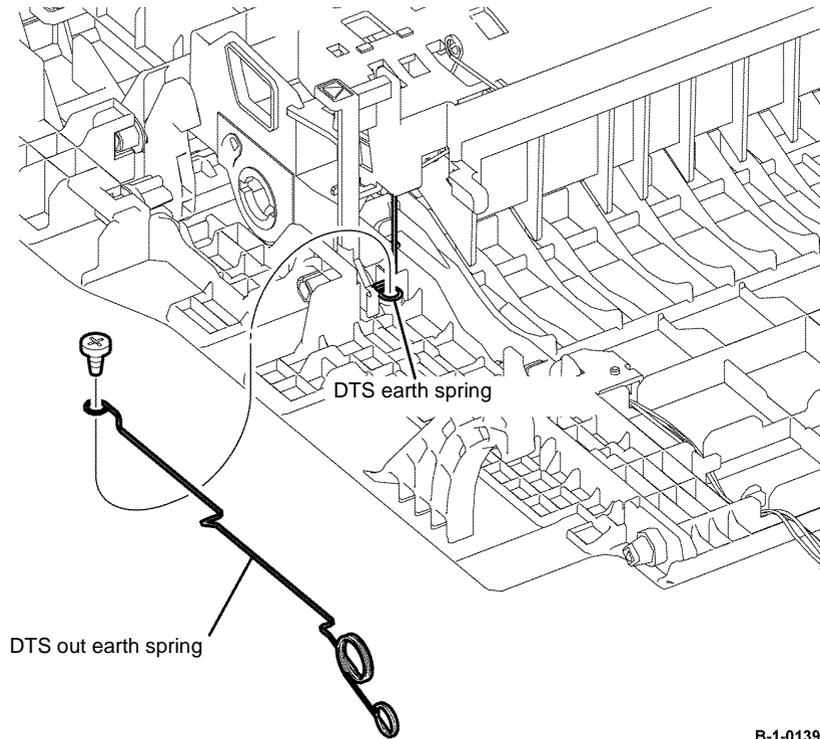

Figure 2 DTS out earth spring installation
2. When installing the DTS out earth spring, ensure it is positioned above the DTS earth spring, on the duplex chute assembly, Figure 2.